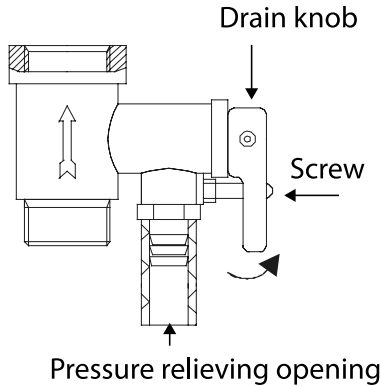

Fig. 9
6. Water can be drained through a composite relief valve (Fig.9) (unscrew the composite relief valve drain knob screw and set the drain knob to the upper position, at that hot water tap must be open, and cold water supply valve must be closed).